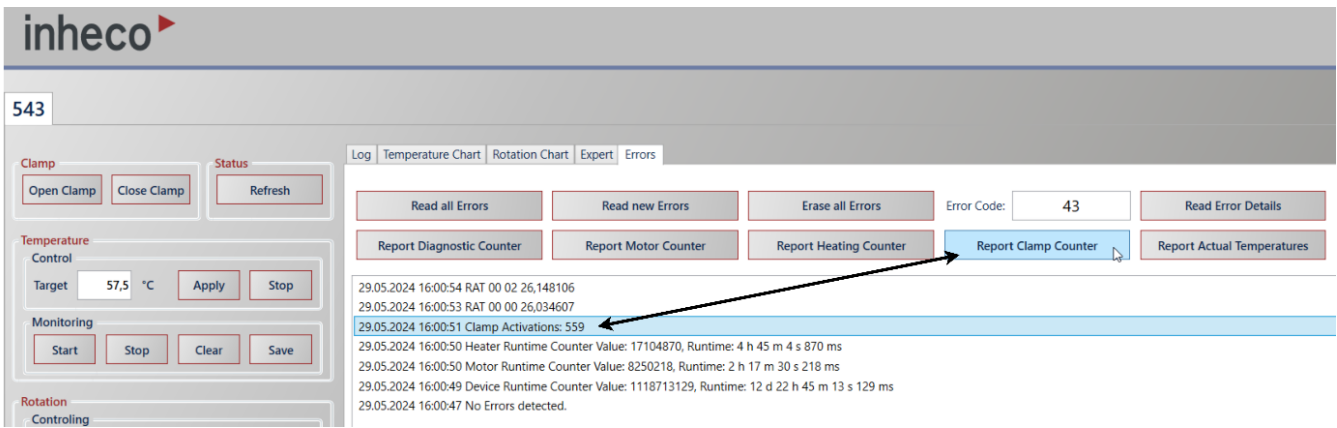

Figure 7: Request diagnostic information by pressing the dedicated buttons (here “Report Clamp Counter”).
Device Menu: Use the device menu to scan for new devices by clicking the "Find" (2) button. The "Open Log" (1) button allows for direct access to the operation log file (text file), which records all commands exchanged with the device and can also be stored (Figure 7).